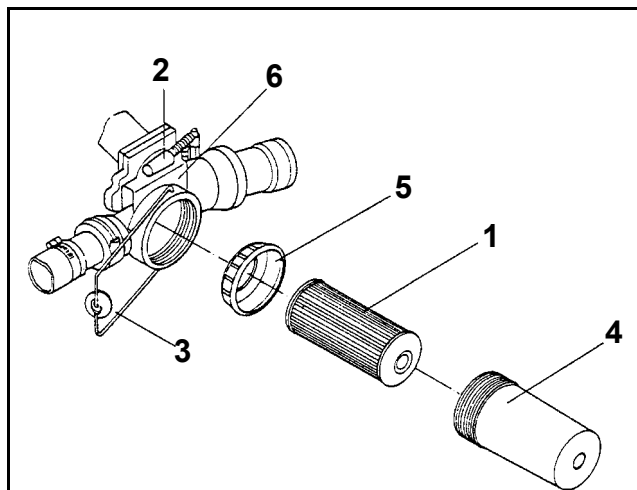

Fig. 126
- Daily clean the filter insert (Fig. 126/1) after having finished operation.
- Set control lever (Fig. 126/2) on position "filling".
- Swivel spring bracket (Fig. 126/3) to the side.
- Remove filter bowl (Fig. 126/4) by slightly turning it to the right and left hand side.
- Now filter insert (Fig. 126/1) and centring ring (Fig. 126/5) are easy to access.
- The open side of the filter insert should face towards the filter tap housing (Fig. 126/6).
- Swivel the control lever (Fig. 126/2) to position "spraying" and check the filter tap for tightness.